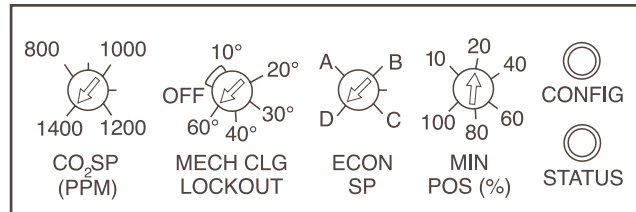

Fig. 31 — EconoMi\$er Control Adjustment Potentiometers (Factory Settings)
2. Locate the CO₂ SP (PPM) potentiometer and adjust to the desired set point. See Fig. 31.
Mechanical Cooling Lockout — Determine the outdoor-air temperature at which you want the mechanical cooling (compressors) to be disabled. Locate the mechanical cooling lockout (MECH CLG LOCKOUT) potentiometer. To disable this feature, turn the potentiometer counterclockwise (CCW) to the OFF position. Otherwise, set the value between 10 and 60 F. Mechanical cooling will not operate when the outdoor air temperature is below this value. See Fig. 31.
Dry Bulb Changeover Set Up — Determine the dry bulb changeover set point from Table 3. The settings are A, B, C and D. Locate the ECON SP potentiometer and set the dry bulb changeover set point. See Fig. 31. When the OAT is above this set point, the damper is limited to minimum position setting.
2. Locate the minimum position (MIN POS) potentiometer. Turn the potentiometer full CCW to fully close the outdoor-air dampers. Turn the potentiometer gradually clockwise (CW) to the desired position. See Fig. 31.